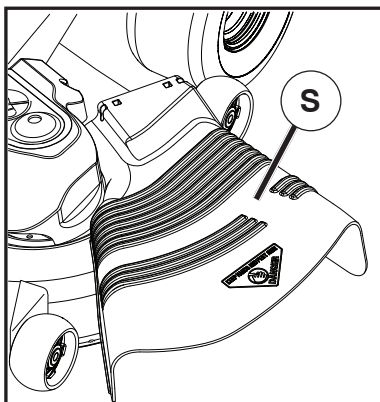

Fig. 11
CAUTION: Do not operate the mower without either the entire grass catcher, on mowers so equipped, or the deflector chute (S) in place (See Fig. 11).